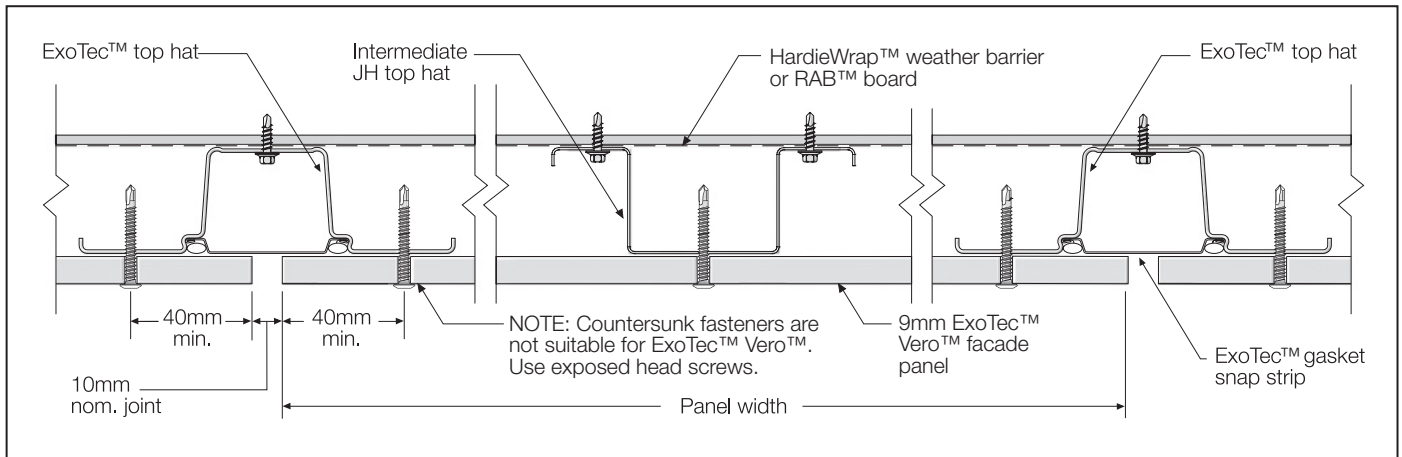

FIGURE 8 TOP HAT AND PANEL FIXING DETAIL FOR EXOTEC™ VERO™ PANELS
1. Mark fastener locations as specified, see Figure 8.